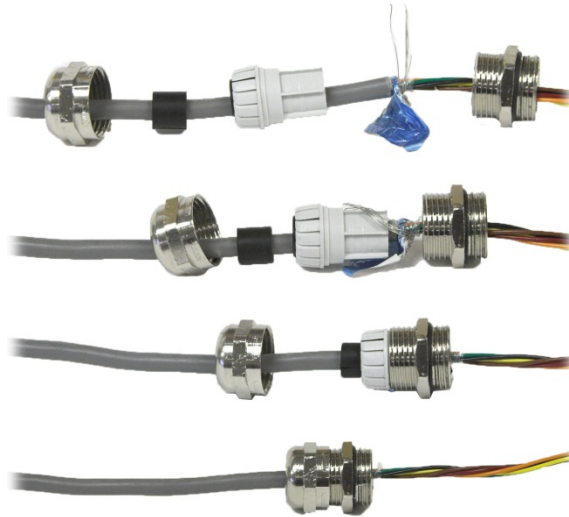

Figure 2-23: Cable Shield Grounding
5. Cable shielding should be grounded to the IND570's enclosure by spreading the shield wires as shown at the top of Figure 2-23, then folding them back over the plastic component of the cable gland before pressing it into the threaded body.